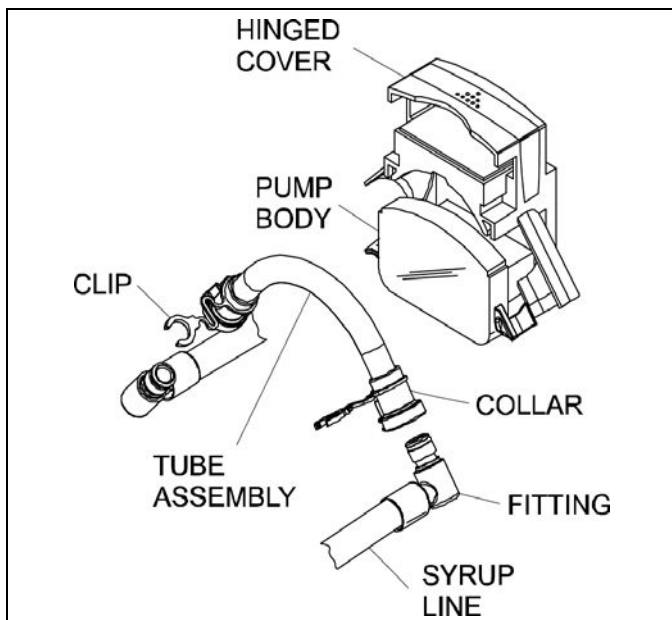

Figure 6-128
- 6** 12. Grasp the pump tube by both ends and remove it from the pump body. (See Figure 6-128.)